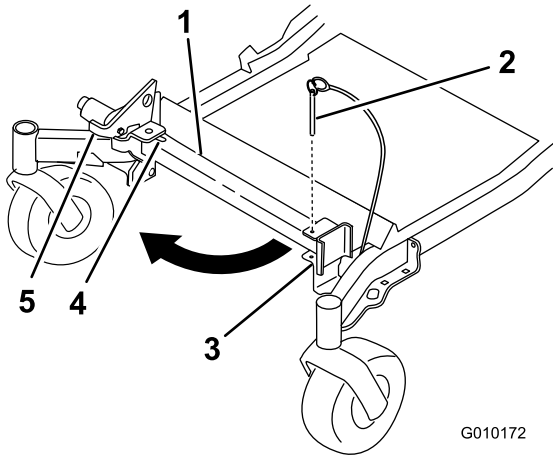
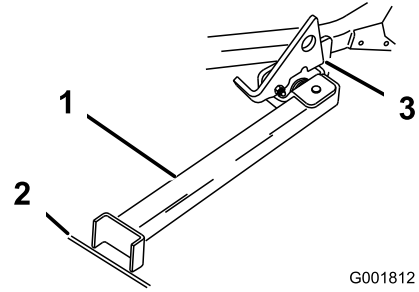

Figure 39
Figure 40
2. Remove the bracket pin (Figure 39).
4. Swing the stand foot out front and slide it toward machine, into the bottom of slot (Figure 39 and Figure 40).
5. Set the foot of the stand on the ground and rest the latch on the pivot tab (Figure 40).
- Note:** For best results, place the foot of the stand into the seams in sidewalks or into the turf (Figure 40).
7. Drive the machine onto the stand. Stop when the latch drops over the tab into the locked position (Figure 40).
5. Return the stand to its rest position (Figure 39).